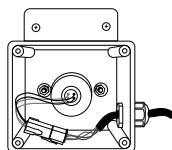

FIGURE 2
- Once the UV bulb has cooled off remove the CLEARRAY System enclosure cover (9) and gasket (8) by removing the four screws (10). This will expose the UV bulb and connections, Figure 2.